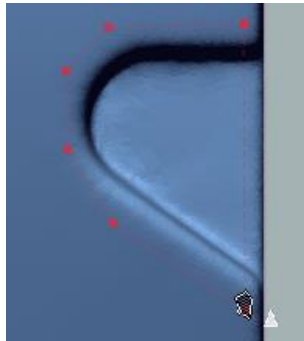

Figure 14
- Click a set of points as shown in **Figure 14**. As you click, a boundary line will appear from click to click.